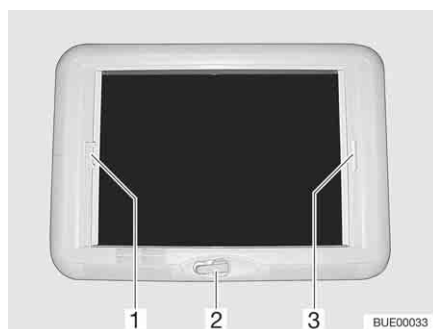

Fig. 92 Wind-up skylight
- Rotate the hand crank (Fig. 92,2) until a resistance can be felt.
- Pull the handle of the Roman shade (Fig. 92,3) and release in the desired position. The Roman shade will stay in that position.
- Pull insect screen at the handle (Fig. 92,1) to the opposite handle of the Roman shade (Fig. 92,3) and allow to engage.
- Press the handle of the insect screen (Fig. 92,1) at the back upwards and detach the insect screen from the Roman shade (Fig. 92,3).